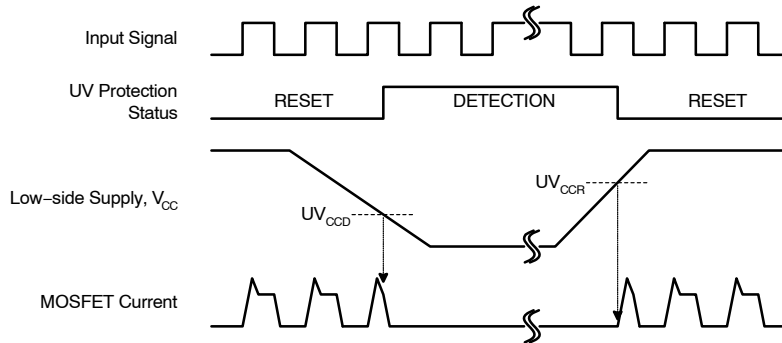

**Figure 6. Switching Time Definitions**
- $t_{ON}$  and  $t_{OFF}$  include the propagation delay of the internal drive IC. Listed values are measured at the laboratory test condition, and they can be different according to the field applications due to the effect of different printed circuit boards and wirings. Please see Figure 6 for the switching time definition with the switching test circuit of Figure 7.